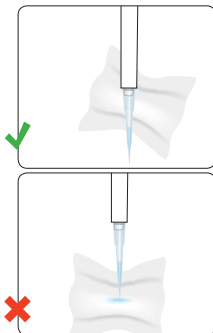

Figure 9. Removing Droplets on the Tip
► Before dispensing, carefully remove droplets on the outside of the tip with a lint-free cloth, being sure to stay clear of the tip opening. (figure 9)
▶ Before dispensing, carefully remove droplets on the outside of the tip with a lint-free cloth, being sure to stay clear of the tip opening. (figure 9)